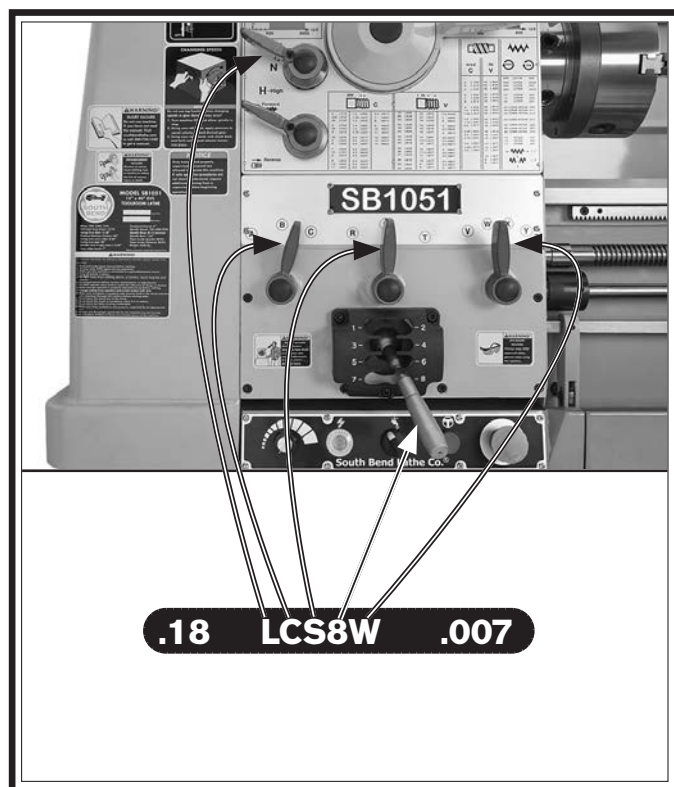

Figure 69. Power feed controls positioned for 0.18 mm/rev.
4. Position the controls as directed by the configuration string as follows (see **Figure 69**):